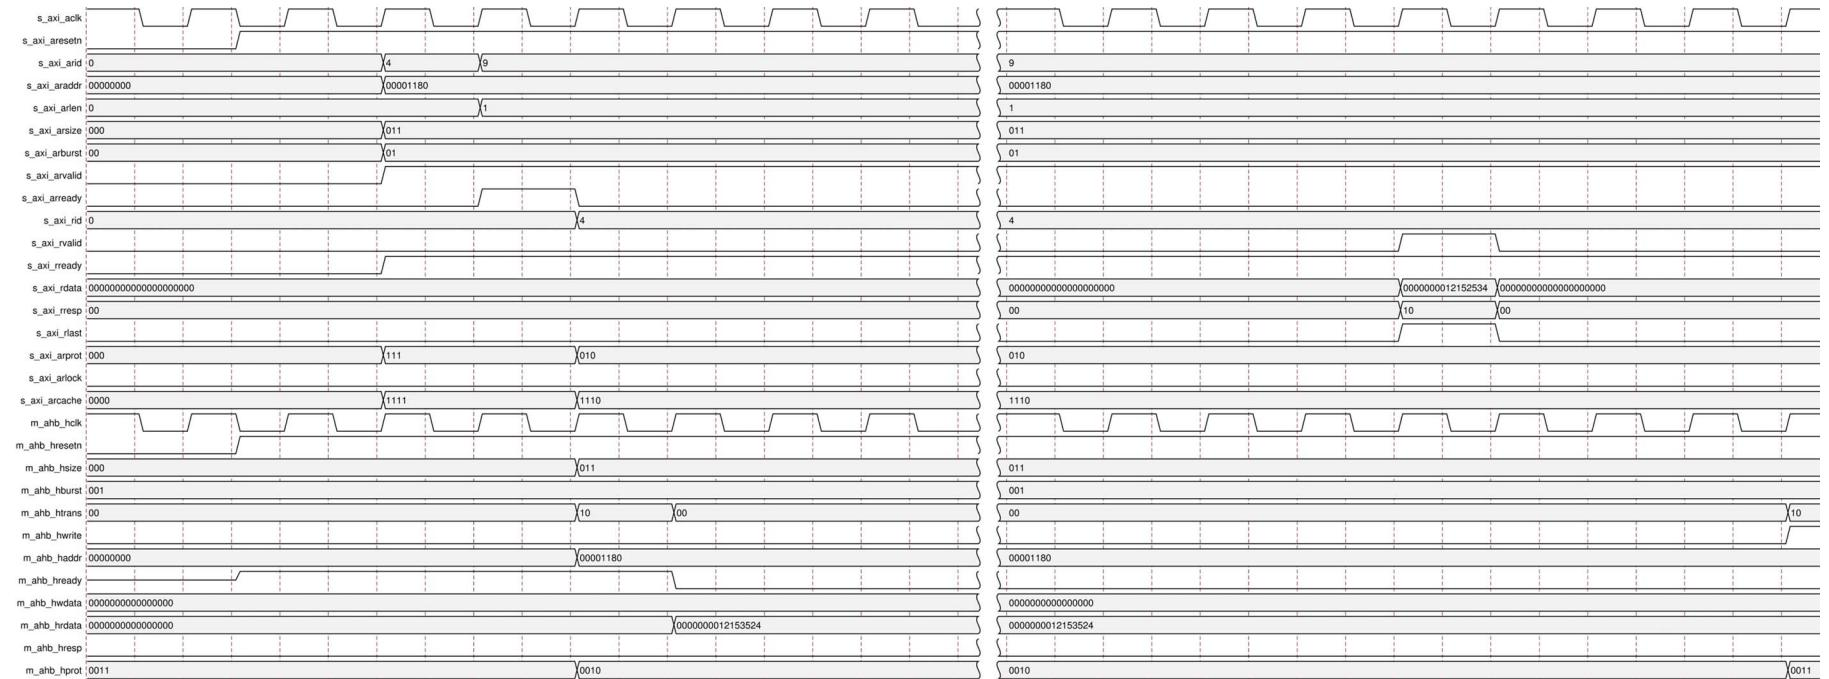

Figure 3-14: AXI4 Read Timeout of 16
14. AXI4 read timeout of 16 is shown in Figure 3-14. AXI4 read transfer is completed with a SLVERR response.